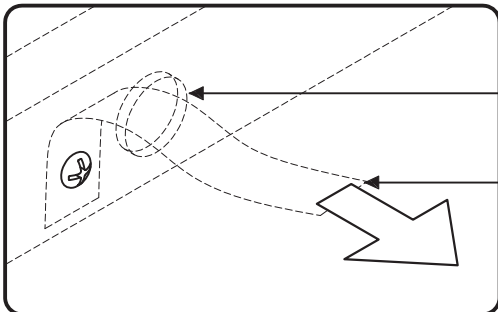

Figure 5
Move unit back into place and insert Tip-over Restraint into unit through hole in Back Panel (H). (See Figure 5)